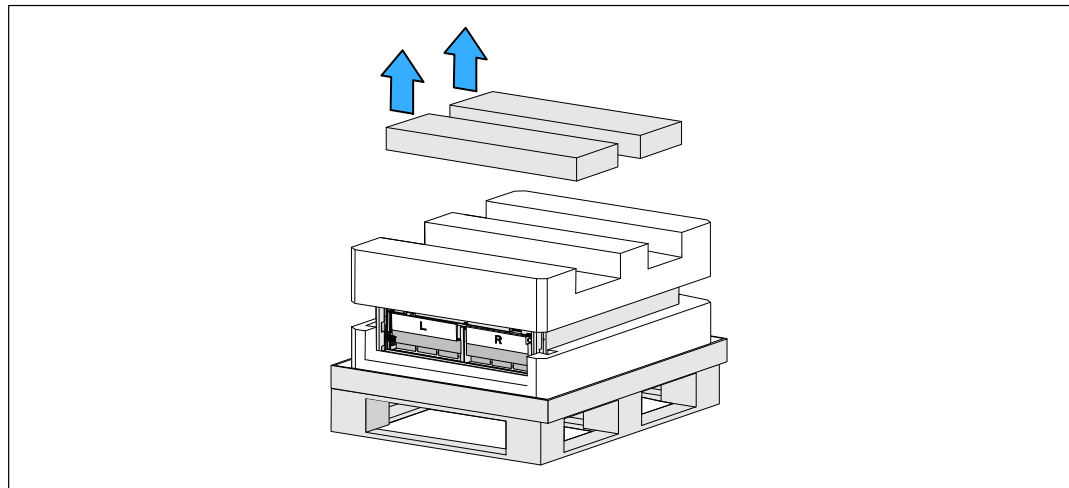

Figure 5. Removing the Accessory Boxes
- 3 Remove the two accessory boxes tucked into the channels in the top Styrofoam section. Open the accessory boxes and set them on a flat, stable surface nearby (see Figure 5).